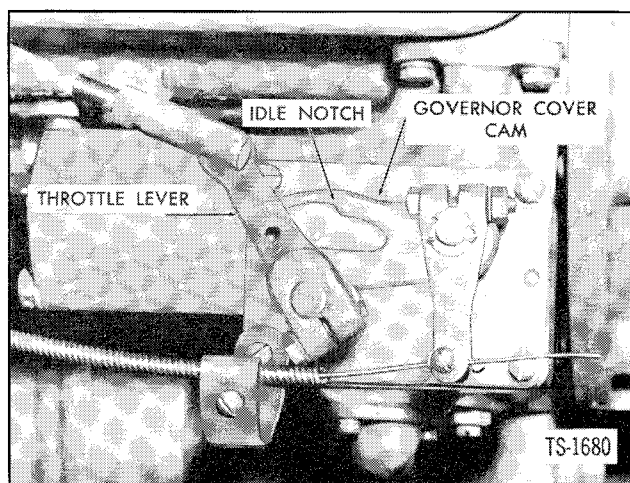

Fig. 35. Full Fuel Position (G.M. Diesel)
2. Advance cross-shaft to full fuel position. Check that pin on throttle lever is at nose section of governor cover cam. See Figure 35.